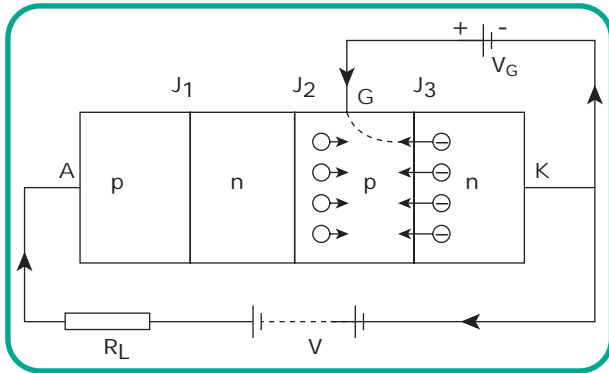

Figure 5.10 SCR with Gate Voltage
Figure 5.10 shows the small positive voltage applied to the gate. Now the junction J_3 is forward biased and junction J_2 is reverse biased. The electrons from N-layer (cathode) start moving across junction J_3 towards left, whereas holes from P-layer (Gate) move towards, right, consequently, the electrons from junction J_3 are attracted across junction J_2 and gate current starts flowing. This makes the anode current to increase. This increased anode current in turn makes more electrons available at junction J_2 . This process continues and in short time the junction J_2 breaks down and SCR starts conducting heavily. Once the SCR starts conducting the gate loses its control. Even if gate voltage is removed, the anode current does not decrease at all. The only way to stop conducting is to reduce the supply voltage (V) to zero.